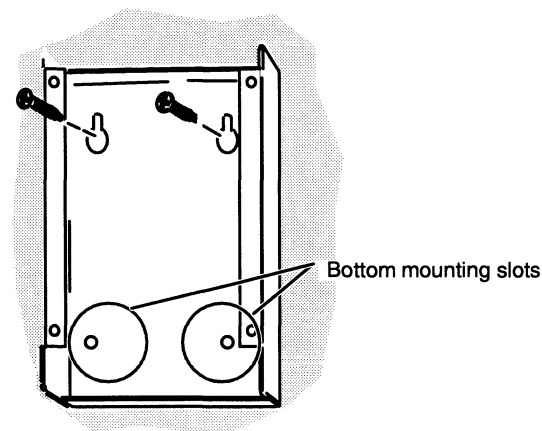

Figure D-16 VAC/16 Junction Box Bottom Mounting Slots
8. Screw two mounting screws three-quarters of the way into the anchor or mounting surface; then mount the J-box base on the screws. Mark the position of the bottom mounting screws before you make pilot holes for them. See Figure D-16.